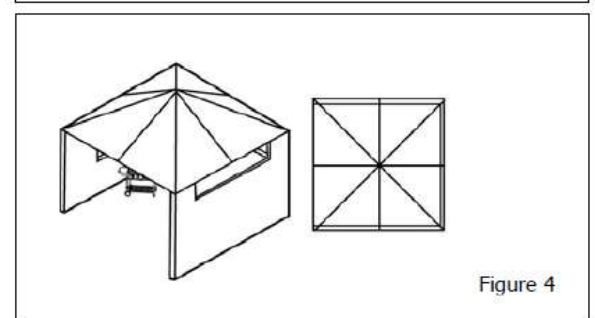

Figure 4
- a) One wall that is equivalent to at least 25% of the total wall area is completely open. (Figure 4)